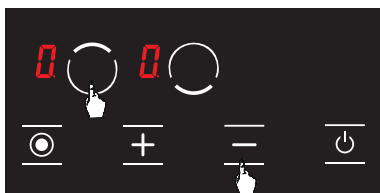

Figure 18
2. Press upper hob selection key (  ) and minus key (  ) simultaneously. (see Fig. 18) You shall hear a short warning signal at this time. Then, remove your fingers from the stove control panel.